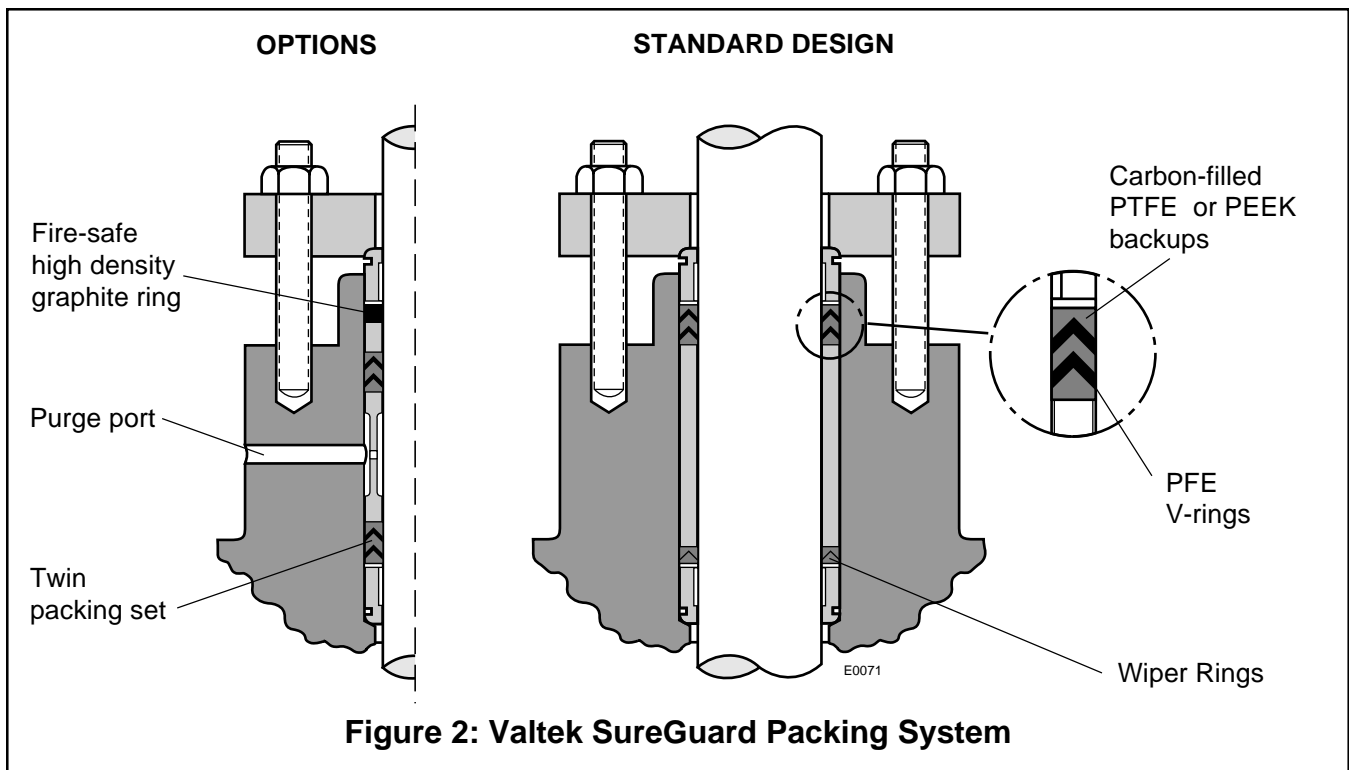

Figure 2: Valtek SureGuard Packing System
To install Valtek SureGuard and Valtek SureGuard XT packing into a valve, refer to Figure 2 and Table I, and proceed as follows.
2. Place the lower stem guide into the bonnet bore, followed by a thin stainless steel anti-extrusion ring. Next, place a male followed by a female carbon-filled PTFE or PEEK adaptor ring into the packing box as shown in Figure 2.